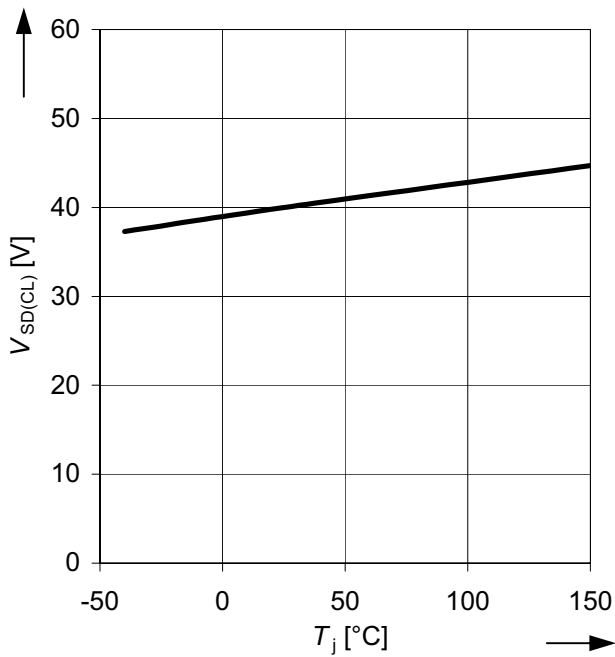

Figure 33 Typical output voltage drop limitation $V_{SD(CL)}$ as a function of the junction temperature T_j
4) See Figure 33 for typical temperature dependency.